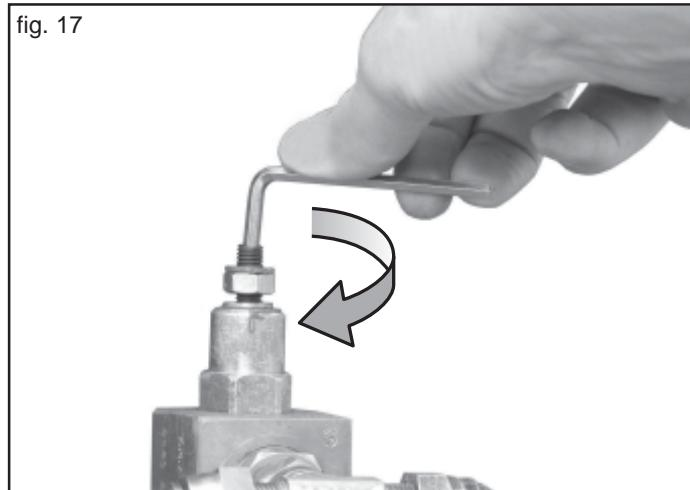

fig. 17
- 4) Behind the equipment, using an allen key (no. 4, Fig. 17), turn clockwise very slowly until the toolbars begin to move.